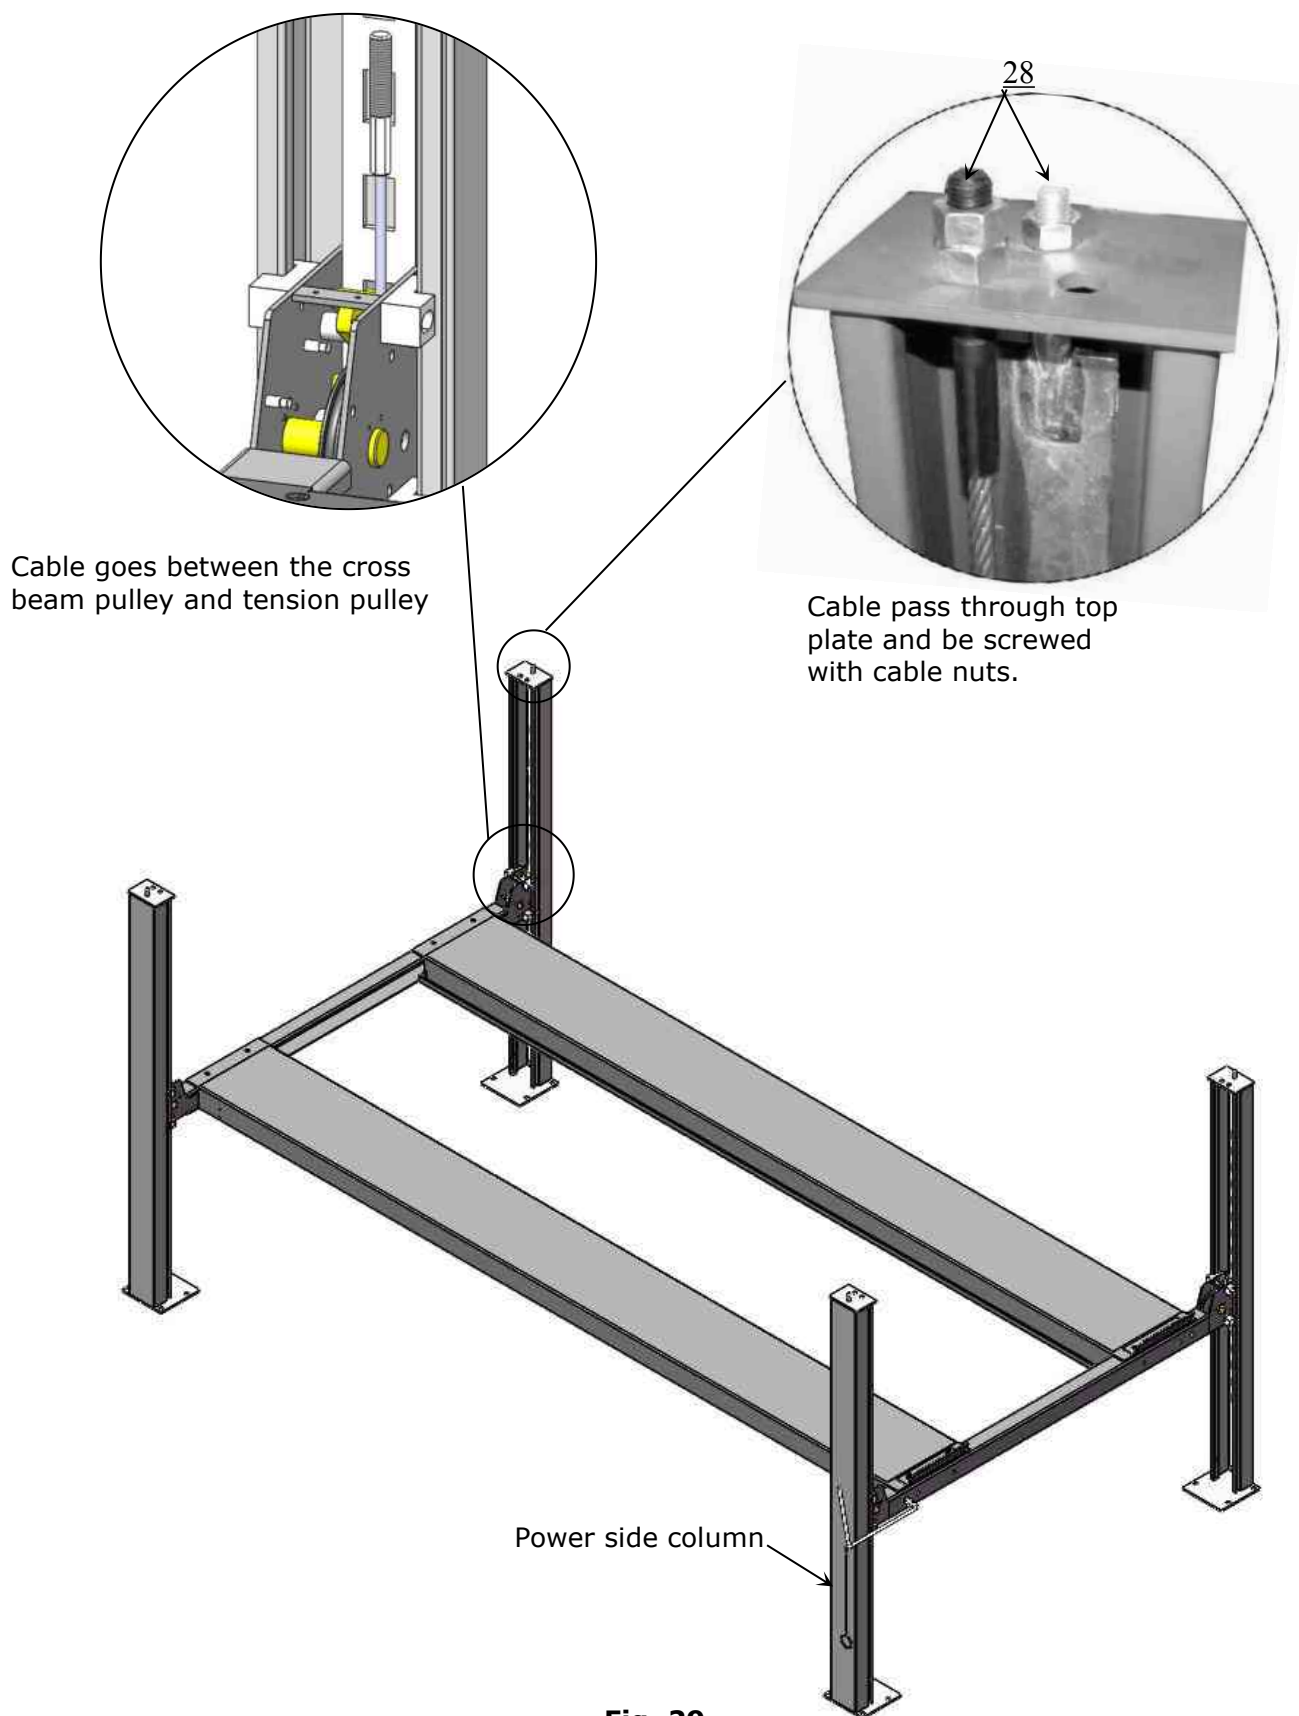

Fig. 29
2. Pass The cables through the cross beam to top plate of columns and screw with cable nuts (See Fig. 29).